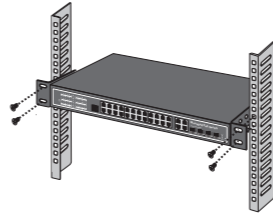

Fig.3.1.2 Installation Schematic diagram
- 4.Secure the L-bracket on the fixed guide groove on each side of the frame by screws to stably and horizontally install the switch on the frame, see Fig.3.1.2.